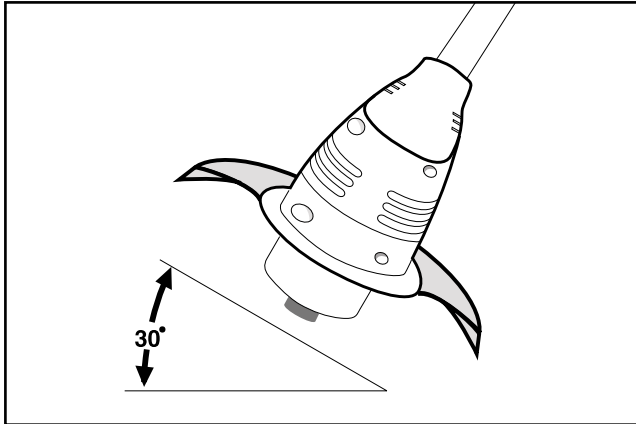

Fig. 14
1. Decorative trimming is accomplished by removing all vegetation around trees, posts, fences, etc. Use a 30-degree angle when trimming with this method (Fig. 14).